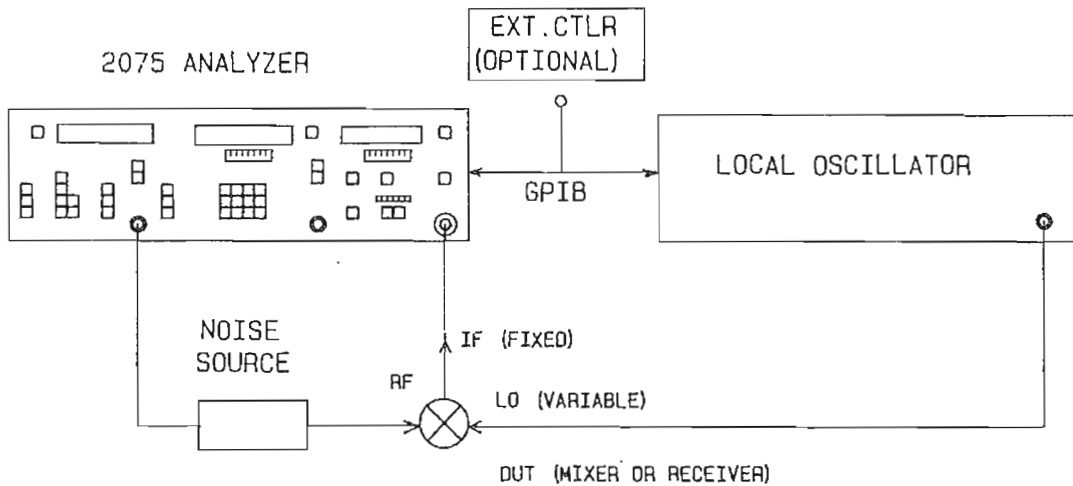

Figure 3-10b. TEST CONFIGURATION 4 MEASUREMENT (DOUBLE SIDEBAND)
20. Insert the Device Under Test into the setup, as shown in Figure 3-10b. If external relays are being used, ignore this step. Upon completing the calibration, the 2075 removed the actuating voltage from the external relays to place the DUT in the measurement path (unless Special Function 10.1 has been activated).